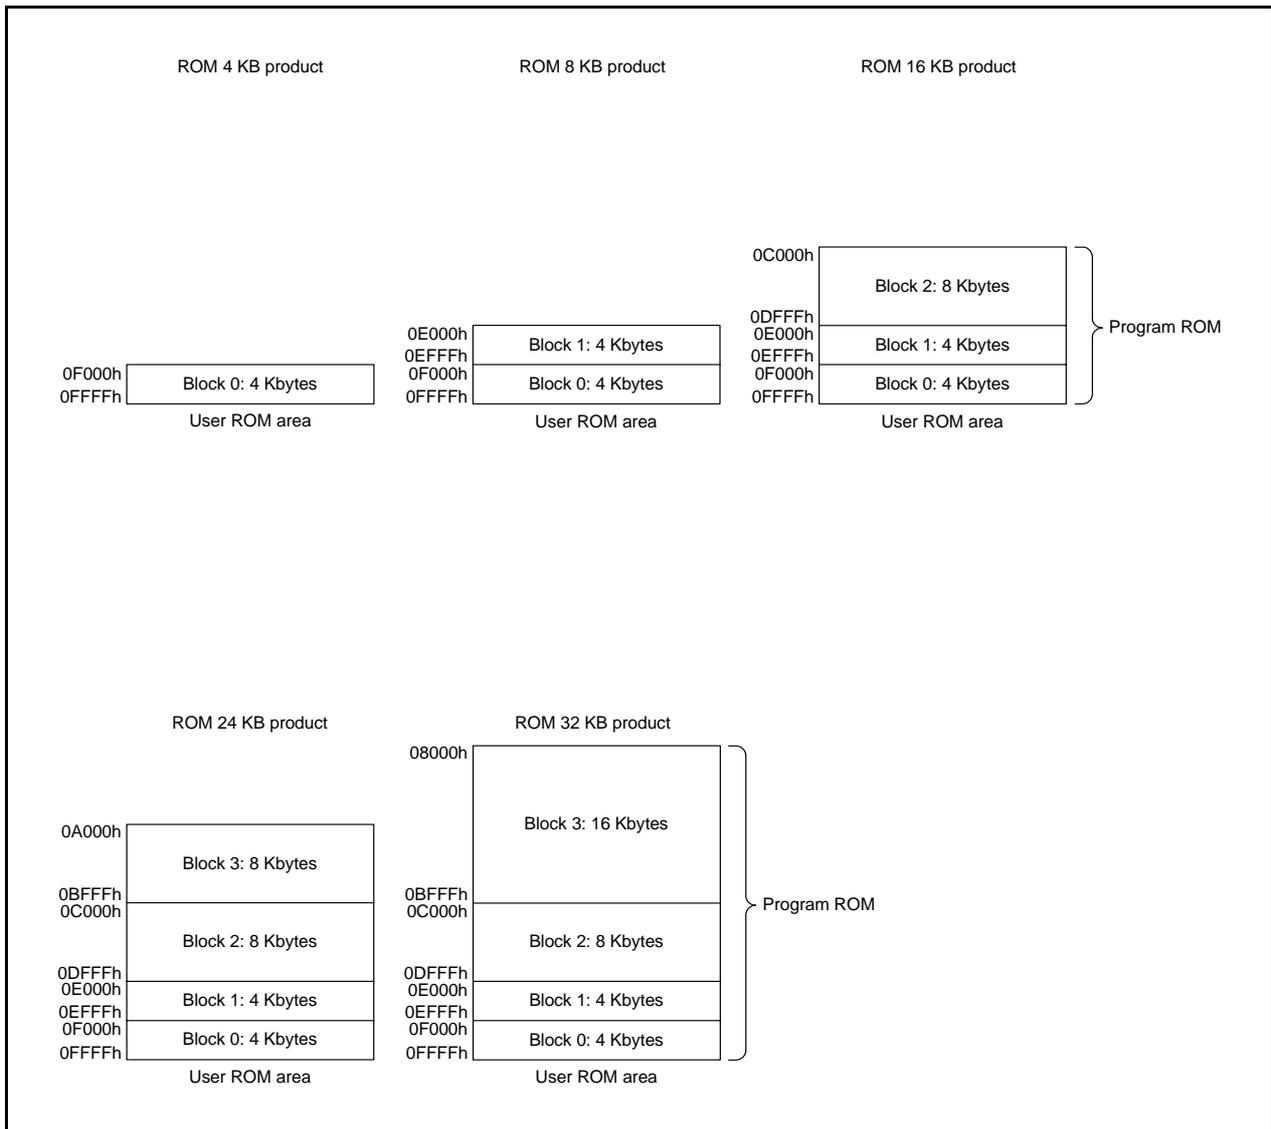

Figure 24.1 R8C/33D Group Flash Memory Block Diagram
- The number of blocks and block division vary with the MCU. Refer to **Figure 24.1 R8C/33D Group Flash Memory Block Diagram** for details.
Figure 24.1 shows the R8C/33D Group Flash Memory Block Diagram.